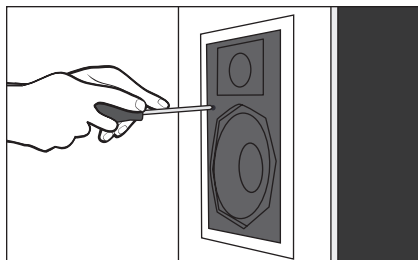

Figure 9b.
b) Holding speaker in place, alternately tighten each screw (Fig. 9b)